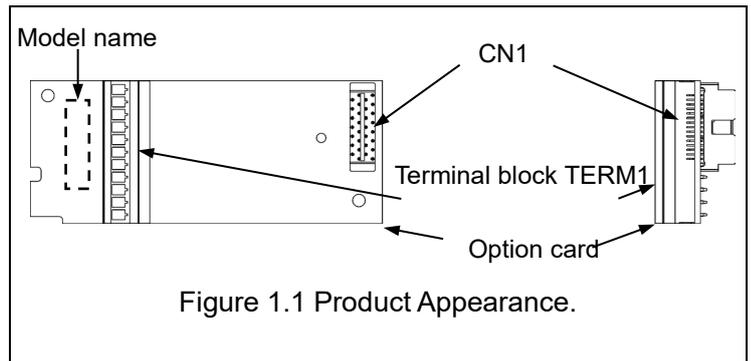

Figure 1.1 Product Appearance.
- (1) A PG interface card and two screws (M3 × 8) are contained in the package.
- (2) The PG interface card is not damaged during transportation--no defective devices, dents or warps.
- (3) The model name "OPC-PG3ID" is printed on the front of the PG interface card as shown in Figure 1.1. (The "PG" on the front is a short name, as shown in Figure 1.1.)